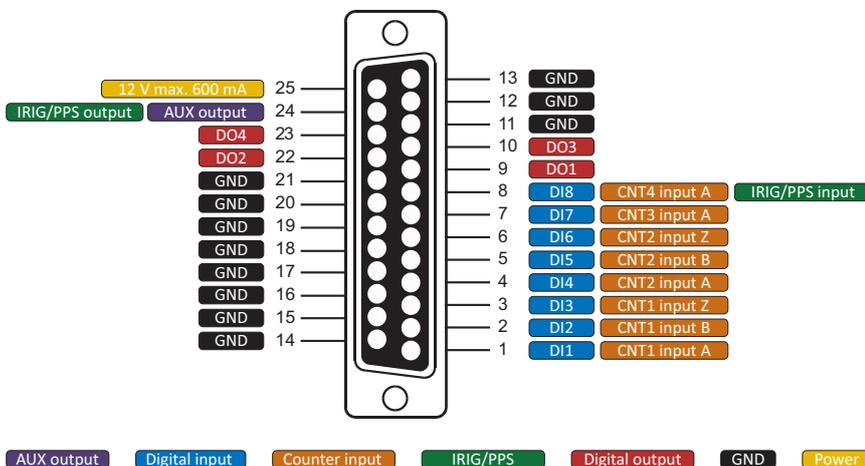

Fig. 7: Pin assignment D-SUB-25 connector
The supports an advanced counter via the pins 1–8 of the digital I/O connector shown in Fig. 7. For information regarding advanced counters refer to Functional description of advanced counter on page 189 of the TRION(3) series modules manual.